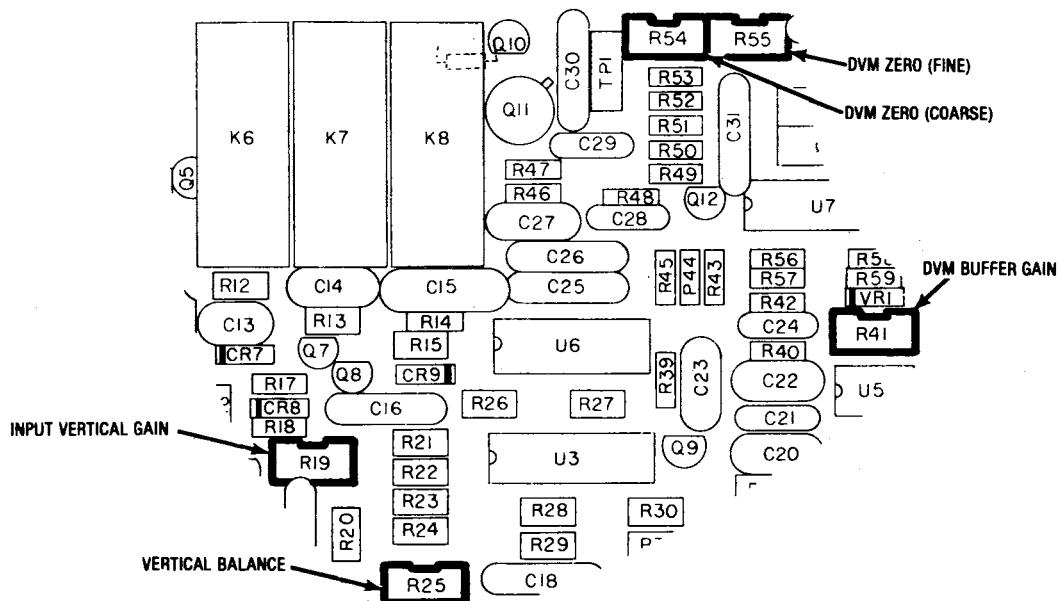

Figure 5-13. Front Panel Interface Alignment Points
5. Adjust the Input Vertical Gain Potentiometer on the Front Panel Interface Board (Figure 5-13) for a 6 cm p-p sinewave on the CRT. (Use the front panel Position Controls to center the waveform on the CRT.)
3. Adjust the DVM Zero (Coarse) and the DVM Zero (Fine) Potentiometers on the Front Panel Interface Board (Figure 5-13) for a zero reading on the DVM Display.
4. Adjust the Coarse DVM Zero and the Fine DVM Zero on the Front Panel Interface Board (Figure 5-13) until the external DVM reads  $0 \pm 0.5$  millivolts DC.
5. Remove the short circuit on the DVM input jack and apply approximately 0.900 volts DC from an external power supply. The voltage between TP2 and TP9 of the Scope/DVM Control Board should be within  $\pm 1$  mv of the voltage at the front panel DVM input jack. If the unit fails this test, adjust the DVM Buffer Gain on the Front Panel Interface Board (Figure 5-13) until the above two voltages are equal.